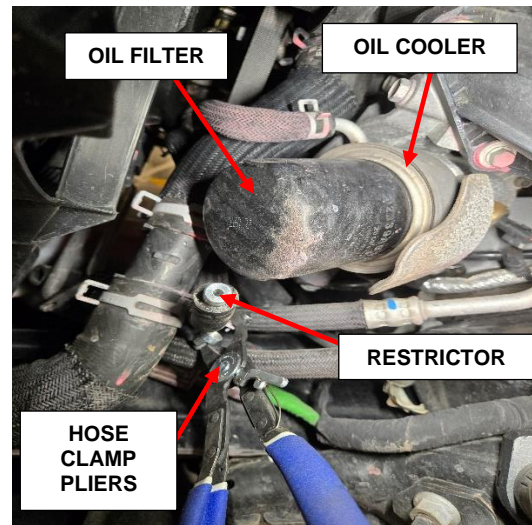

Figure 9 – Restrictor Installation
11. Insert the restrictor into the coolant hose (Figure 9).